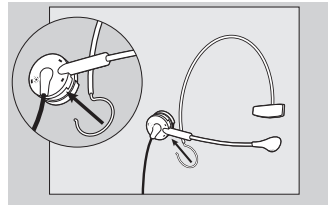

Figure 4-1. Installing Headband.
3. With your right hand, hold the headband so that the C-ring opening is facing towards the receiver (see Figure 4-1).